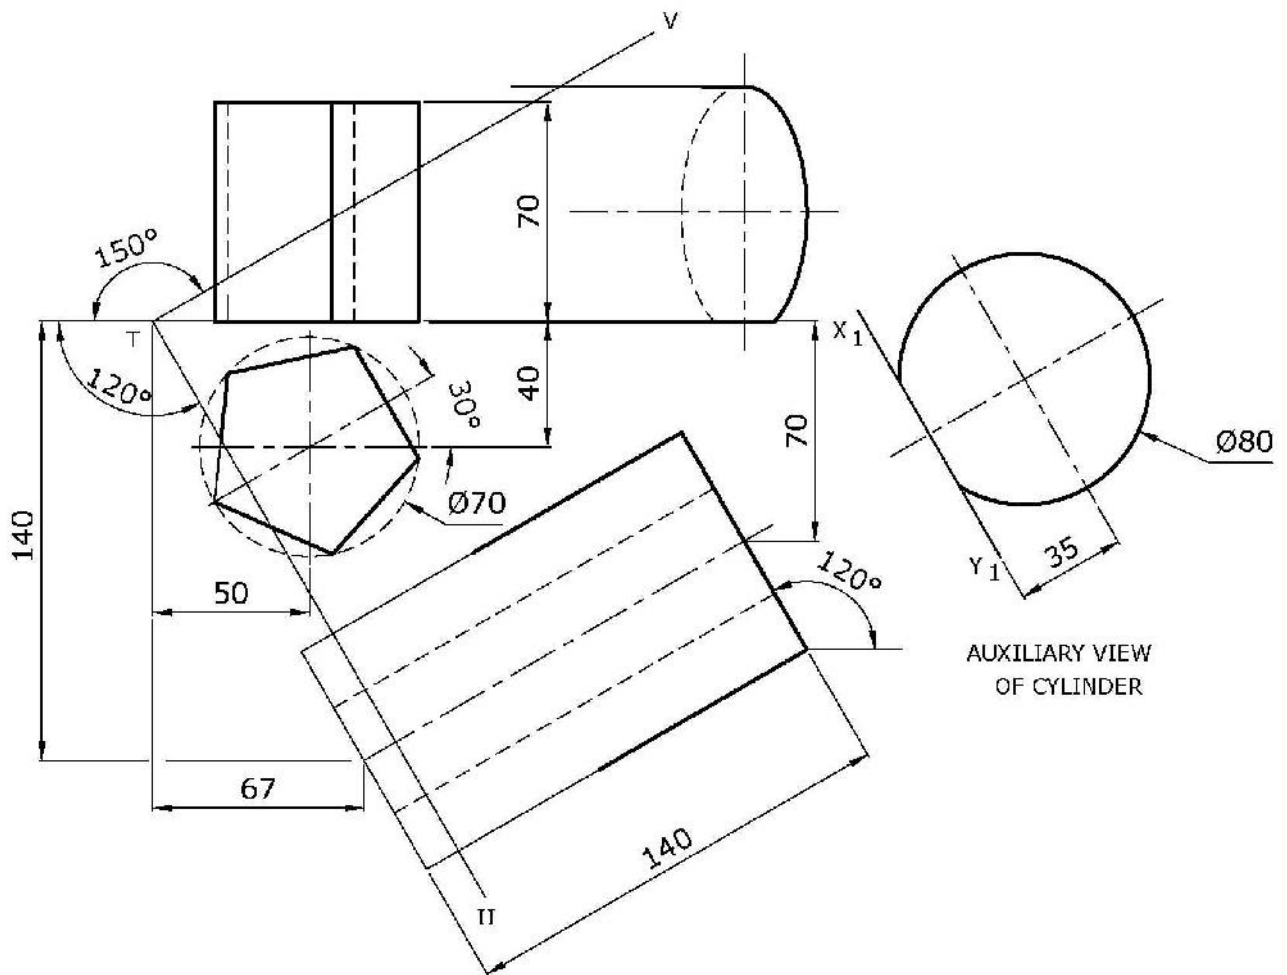

Figure 6b
- Draw, full size, Figure 6b. (5)
- Construct an auxiliary elevation showing the oblique plane as an inclined plane, and how the oblique plane cuts the two solids. (5)
- Complete the plan showing that part of the prism and cylinder under the oblique plane. (5)
- Project a front elevation of the two solids. (5)